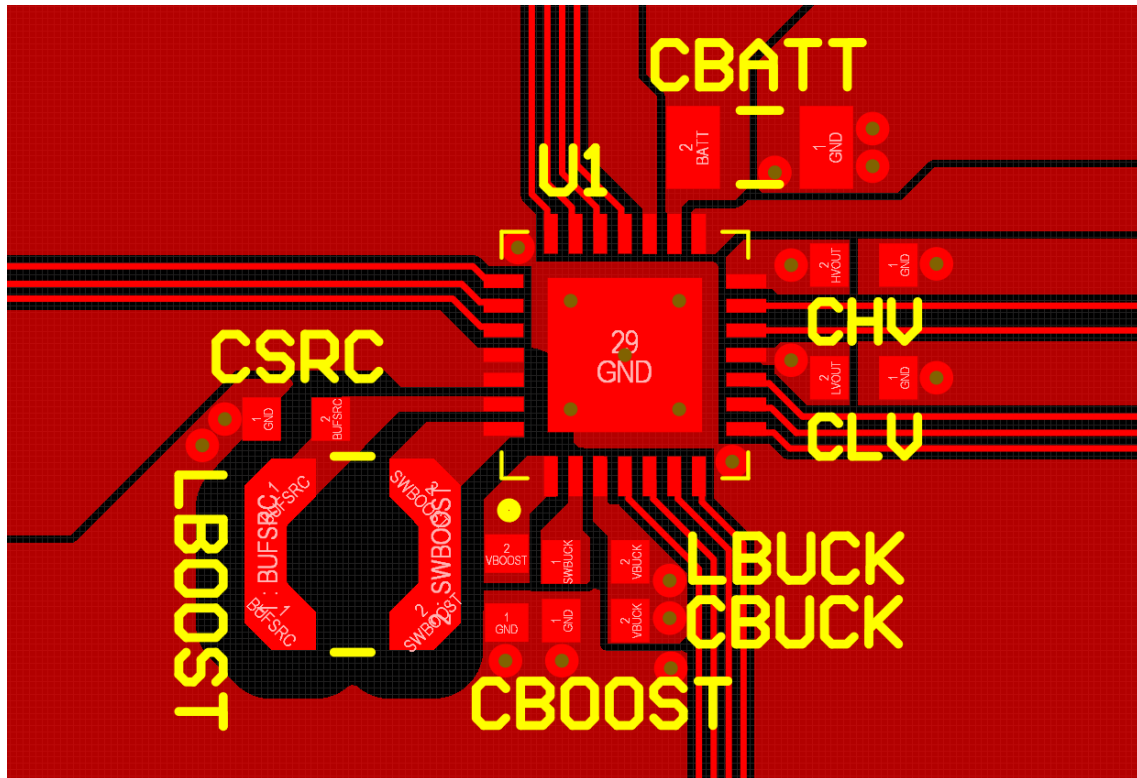

Figure 25: Layout example for the AEM10941 and its passive components
- The switching nodes (**BUFSRC**, **SWBOOST**, **SWBUCK** and **BUCK**) must be kept as short as possible, with minimal track resistance and minimal track capacitance. Low resistance is obtained by keeping track length as short as possible and track width as large as possible between these switching nodes and the AEM10941 pins. Minimal capacitance is obtained by maintaining a large distance between the switching nodes and other signals. We recommend removing the ground plane, the power plane and the bottom layer ground pour under **LBOOST** and **LBUCK** footprints, as well as adding distance between **BUFSRC/SWBOOST** and the top ground pour, as shown in Figure 25.
- The **GND** return path between the decoupling capacitors and the AEM10941 thermal pad, which is the AEM10941 main **GND** connection, must be as direct and short as possible. This is preferably done on the top layer when possible, otherwise by internal/bottom plane, using low resistance vias to decrease layer-to-layer connection resistance. In Figure 25, this **GND** return path is done on an internal plane.